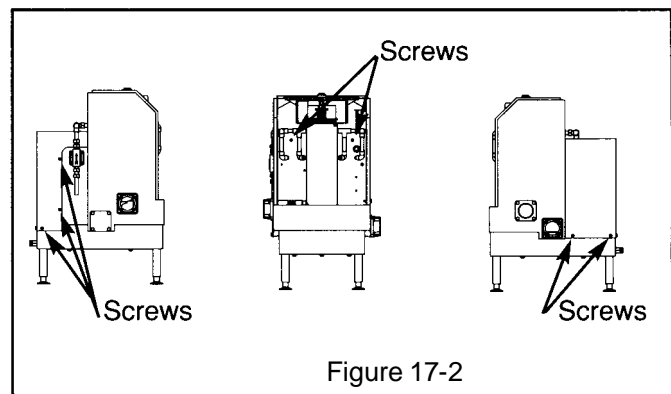

Figure 17-2
3. Remove rear panel by removing the screws securing it in place (see figure 17-2).